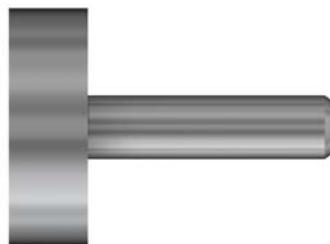
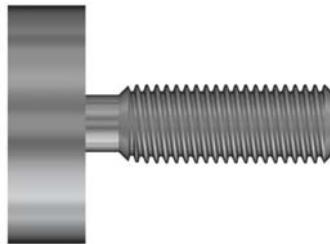

Figure: 5 Before rolling
Figure: 6 After rolling
2. The piece part is turned down to the pitch diameter, minus .002"/.05mm, with a chamfer machined to .010"-.020" (.25mm-.5mm) below the root diameter. The angle of the chamfer should be no more than 30 degrees to the axis, with 20-25 degrees being ideal (See figure 5). After rolling, the resultant chamfer should be approximately 45 degrees, due to the flow of material at this point (figure 6).